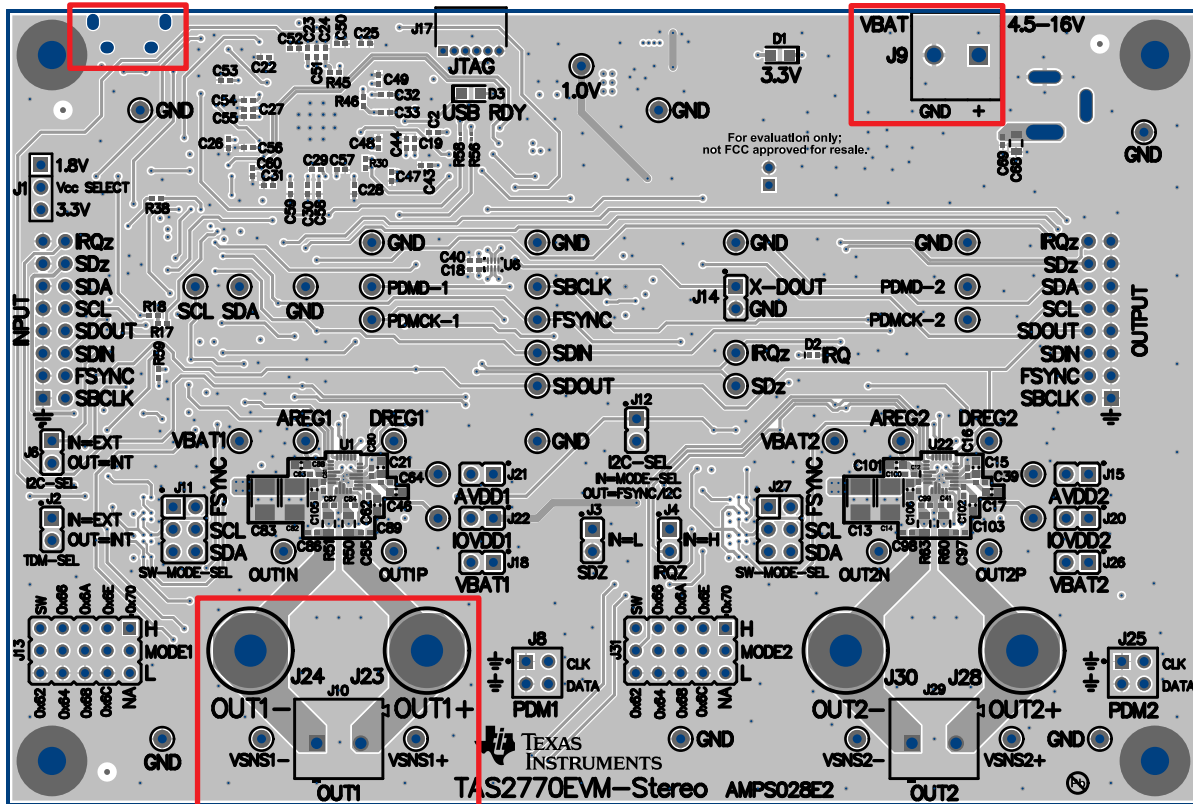

图 6. TAS2770EVM-STEREO Mono Configuration
2. Connect the first speaker to J10 on the EVM (see 图 6). Alternatively, J23 and J24 can be used for speaker connections.